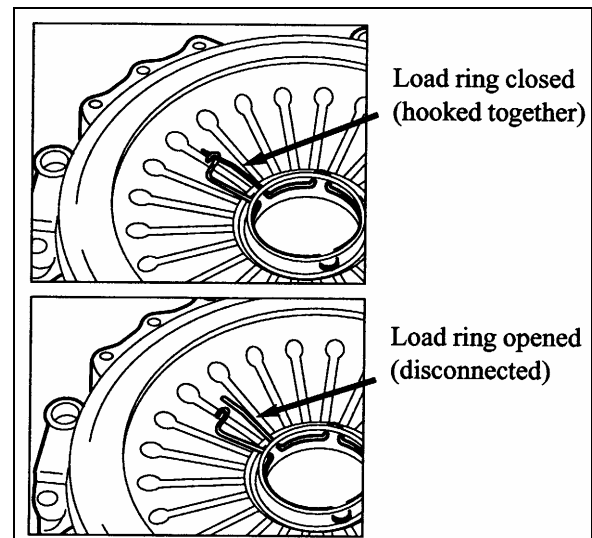

FIGURE 8: RELEASE BEARING RETAINING CLIP 07112
- Ensure that the release bearing retaining clip (located on the "fingers" of the pressure plate) is closed. Refer to figure 8.
- From underneath, push the clutch release bearing forward (in the direction of flywheel) using the release fork. Use force to snap the bearing into the retaining clip located on the "fingers" of the pressure plate. The installer should be able to both hear and feel the bearing seat into place. Refer to figure 8.